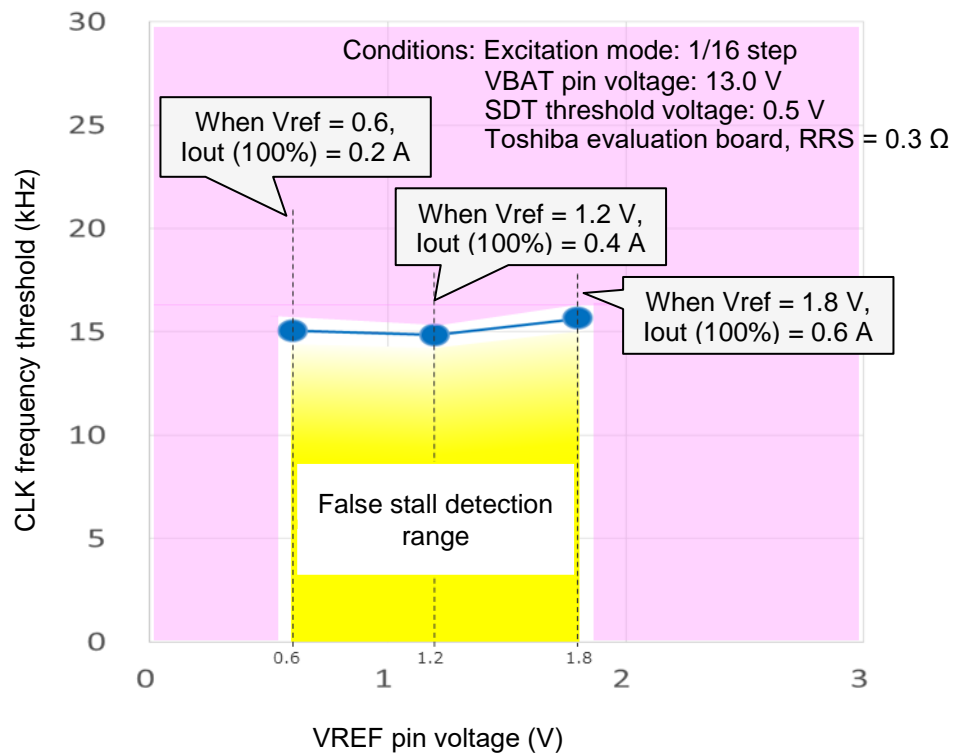

Figure 13. VREF pin voltage vs. CLK frequency threshold (for reference)
- As shown in Figure 13, the result is as follows: